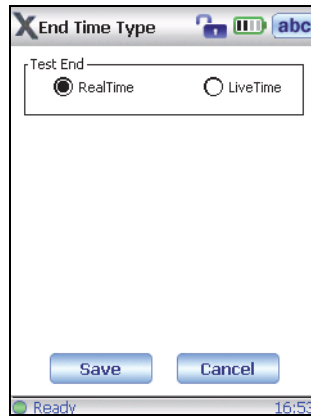

Figure 4-24 The End Time Type screen
4. In the **End Time Type** screen, select the desired **Test End** parameter (see Figure 4-24 on page 81).